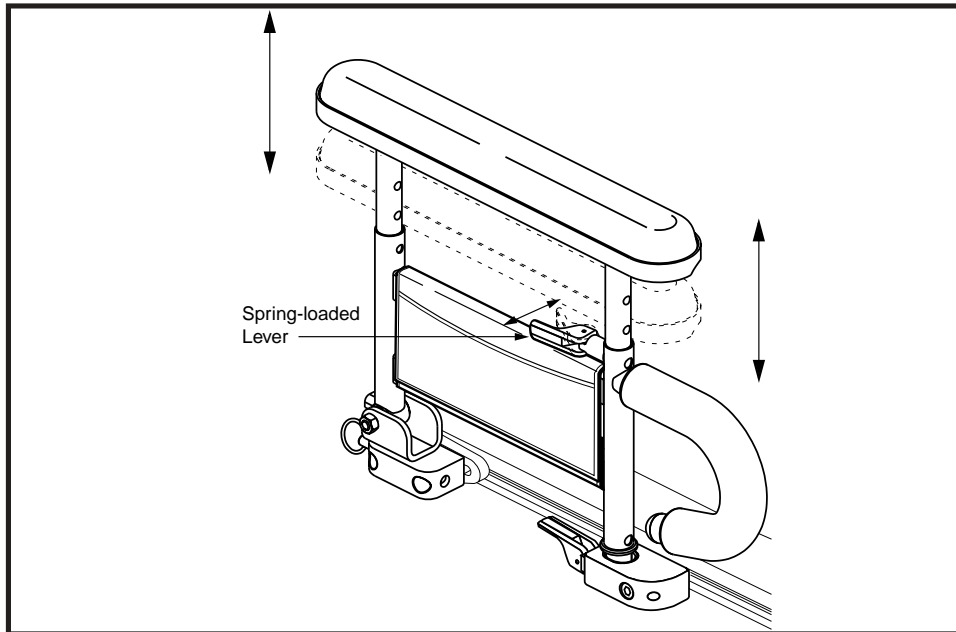

Figure 23. Two Post Height Adjustable Flip-Up Armrest Height Adjustment
1. Push the spring-loaded lever inward. See figure 23.